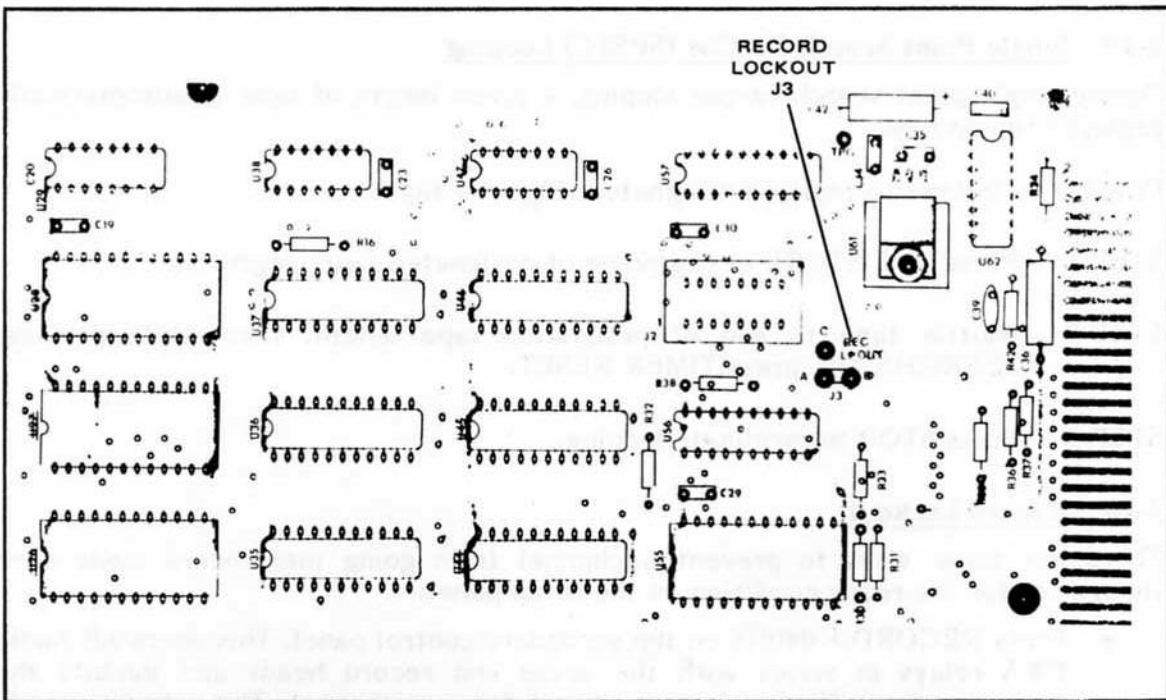

Figure 3-6. Main CPU PWA - Record Lockout Jumper J3—Location
- Install record lockout jumper J3 (Figure 3-6) on Main CPU PWA in A-B position. This jumper is in parallel with RECORD INHIBIT switch on the secondary control panel and provides a more positive lockout since the operator has less access to this jumper than the switch. The B-C position of the jumper is the normal position.